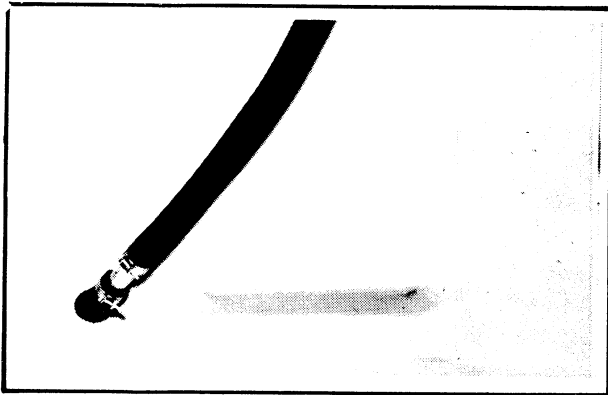

Figure 8B- Rear Panel-Drain Hose
1. Remove the drain hose from pump hose at rear of cabinet. Use a shallow container under the coupling connection to drain pump and hoses. See *Figure 8B*.